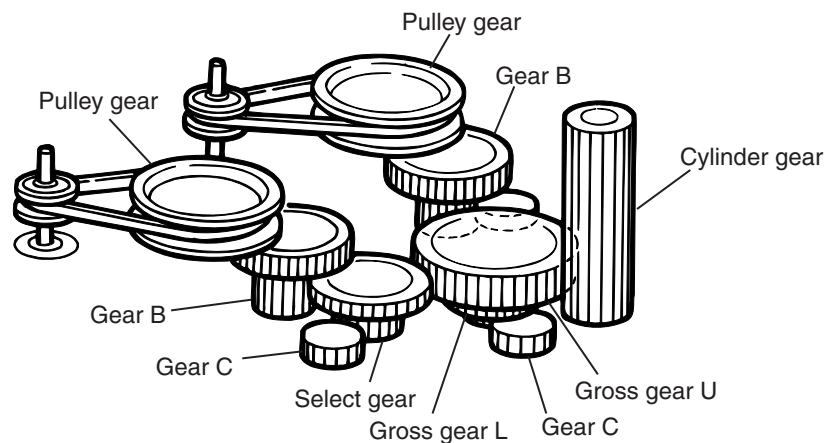

Fig.21
**[Note]** When the chassis assembly is turned over under the conditions wherein the gear bracket and belt have been removed, then the pulley gear as well as the gear, etc. constituting the gear unit can possibly be separated to pieces. In such a case, assemble these parts by referring to the assembly and configuration diagram in Fig. 21.